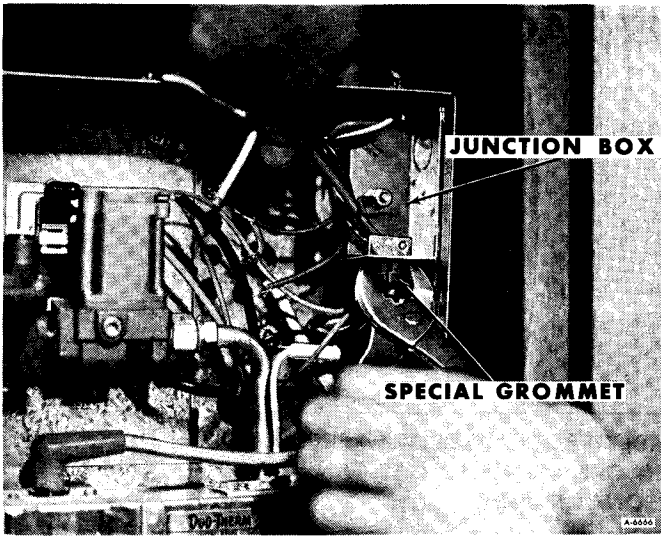

Figure 7—Removing Wiring from Junction Box
6. Inside the junction box remove the wire nuts retaining wiring harness to furnace wiring. Carefully, separate wires in junction box. Using pliers, apply light pressure on special grommet. Pull grommet and furnace wiring from junction box (figure 7).
3. Install furnace wiring and special grommet into junction box (figure 7).